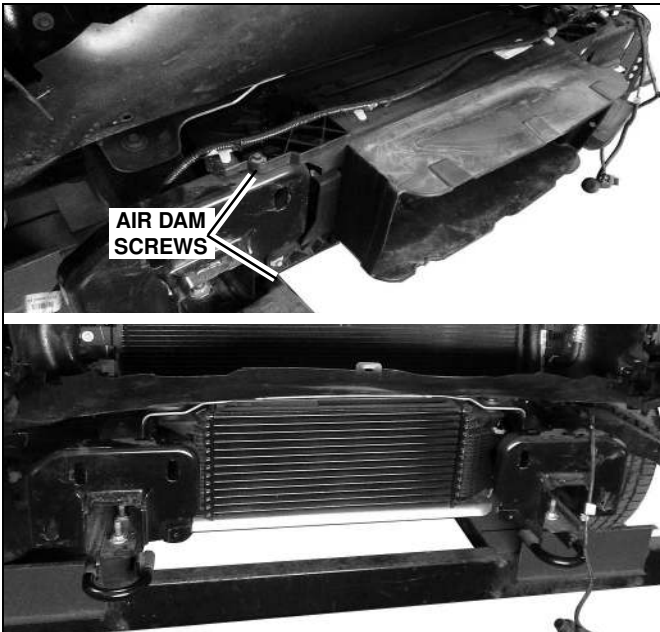

Figure 19
8. Remove the 2 screws from each side of the intercooler air dam holding it to the truck frame. Then remove the intercooler air dam and harnesses attached from the truck. (See Figure 19)